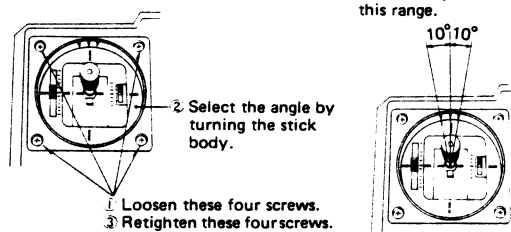

Fig. 5
**Use an AM replacement crystal. The transmitter crystal is marked (T) and the receiver crystal is marked (R).**
- To adjust the operating direction of the stick lever, loosen the four screws and turn the stick and set it at the best position as shown in Fig. 5. After setting the stick, retighten the four screws.
- To use this set with an Nicd battery, purchase an FBPK-8 [Consisting of NT-8J (Tx Nicd), NR-4M (Rx Nicd) and charger, FBC-2A or FBC-8B (1)] and modify the set.